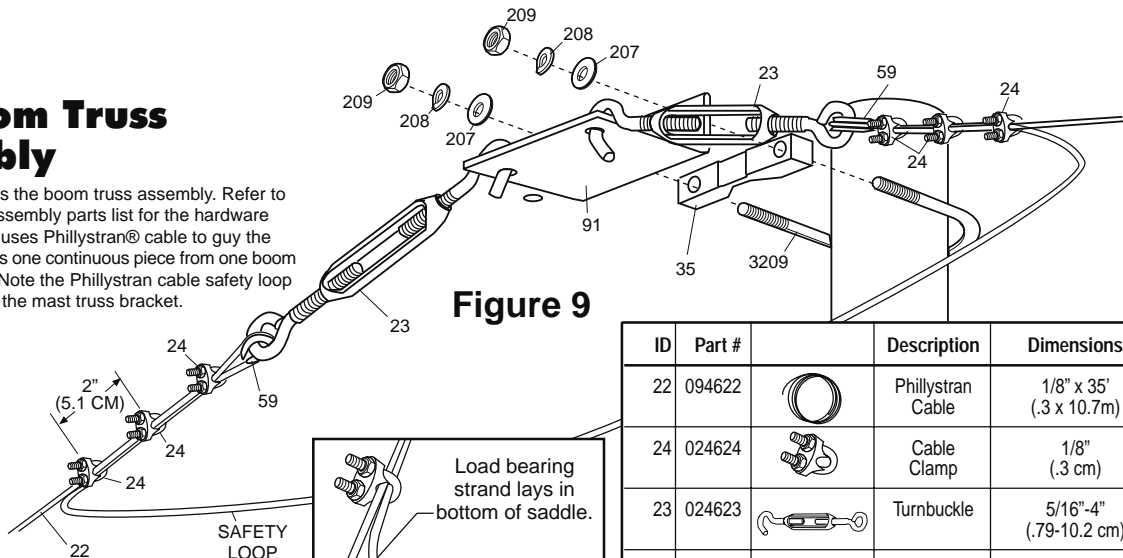

Figure 9
Figure 9 illustrates the boom truss assembly. Refer to the boom truss assembly parts list for the hardware required. The X9 uses Phillystran® cable to guy the boom. The cable is one continuous piece from one boom end to the other. Note the Phillystran cable safety loop that goes around the mast truss bracket.
Attach the truss plate (26) to the mast 3 feet (1m) above the boom to mast clamp using the 3/8" hardware provided. Position the truss bracket on the same side of the mast as the boom to mast clamp. Unscrew the turnbuckle ends until there is 1/2" (1.2 cm) of thread remaining. Place the jaw of each turnbuckle (23) into the holes of the truss bracket. Place a thimble (59) on the eye of each turnbuckle. Place three loose cable clamps (24) onto the cable end. Reference Figure 9 and place the cable clamp saddle over the load bearing cable. The load bearing cable is the cable that attaches to the boom end. Feed the cable through a turnbuckle eye. Run the cable back through the cable clamps. Place three additional cable clamps on the end of the cable. Feed the cable through the other turnbuckle eye. Run the cable back through the cable clamps. Feed enough cable through these parts until the center of the Phillystran cable coil is located at the truss bracket. Insure there is enough slack in the cable to form a loose safety loop between the turnbuckles. Tighten the cable clamps beginning with the clamp closest to the thimble.